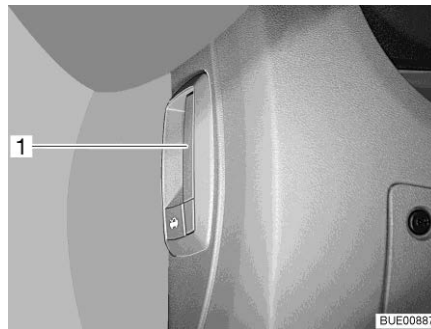

Fig. 39 Release lever for the bonnet (inside the vehicle)
- Pull the lever (Fig. 39,1) on the left under the dashboard or next to it.